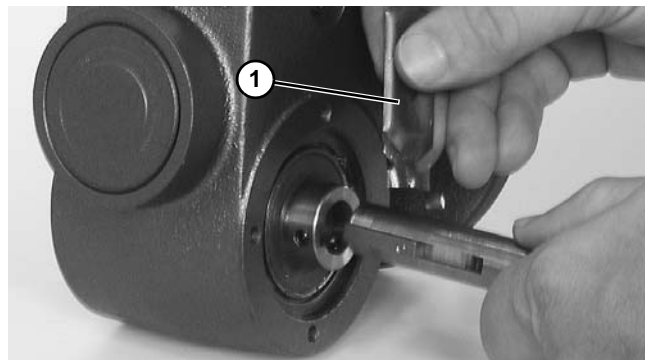

Figure 32
2. Apply anti-seize (Figure 32, item 1) to shaft.